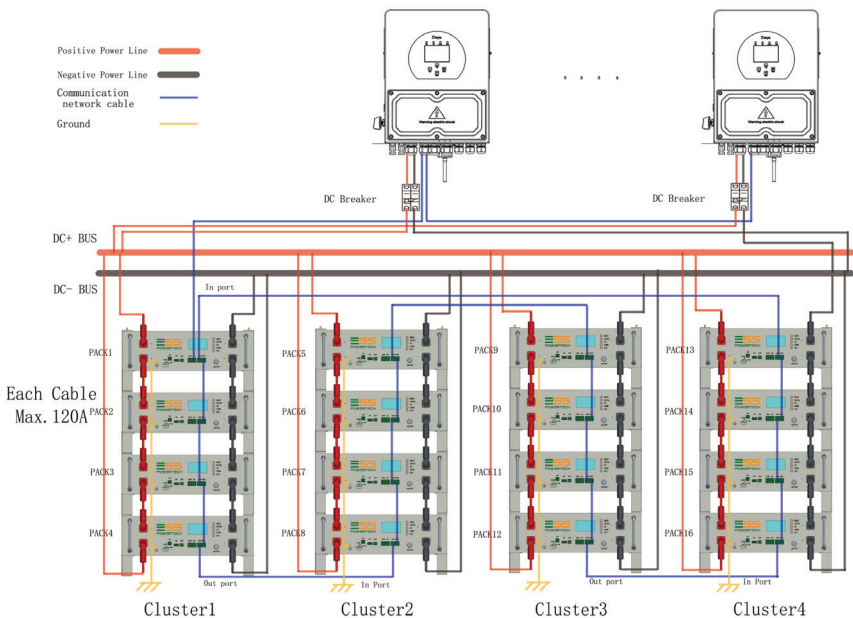

Figure 5-4: Multiple Batteries Connections
1.As shown in Figure 5-4, following the cable connection method of the single battery, connect the positive and negative cables between the Battery 1 and the busbar, Battery 2 and the busbar, and Battery N and the busbar respectively.
As shown in Figure 5-4, connect the communication line (a standard RJ45 network cable) between the adjacent batteries.